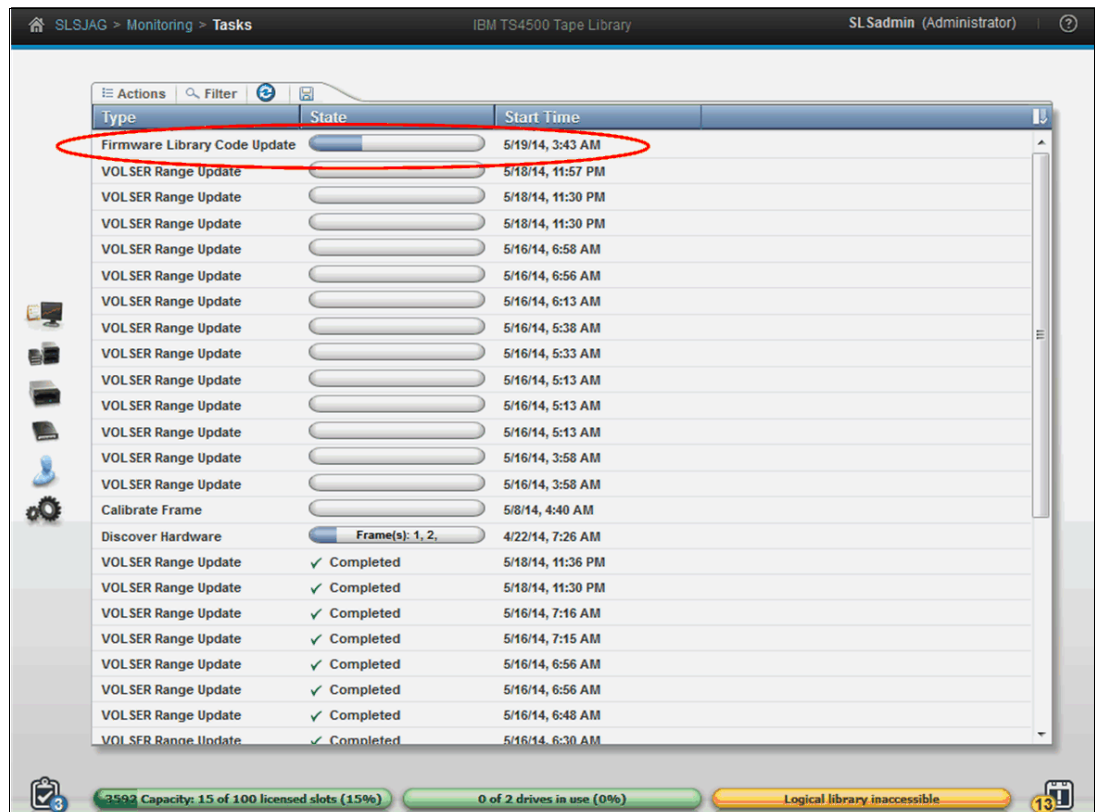

Figure 4-169 Firmware update status
- The firmware is downloaded to the TS4500 Tape Library first, and this download can take a few minutes. Then, the update starts and the Tasks pod, which is at the lower left of the System page, indicates that the firmware update task is in progress. Monitor the status of the update from the Tasks page by selecting **Monitoring** → **Tasks**, as shown in Figure 4-169.